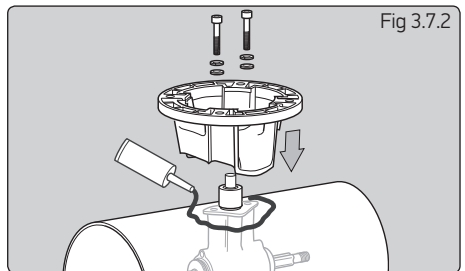

Fig 3.7.2
**NOTE: Poor exterior tunnel surface could cause leakage and noise. Apply sealant to this area as required (Fig 3.7.2).**
- ▶ Apply zinc chromate paste or marine grease to location bore and assemble saddle onto hub (SikaFlex® or similar maybe used to seal saddle in place). Apply Blue Loctite® 243 to bolts and hand tighten along with supplied washers (Fig 3.7.2).